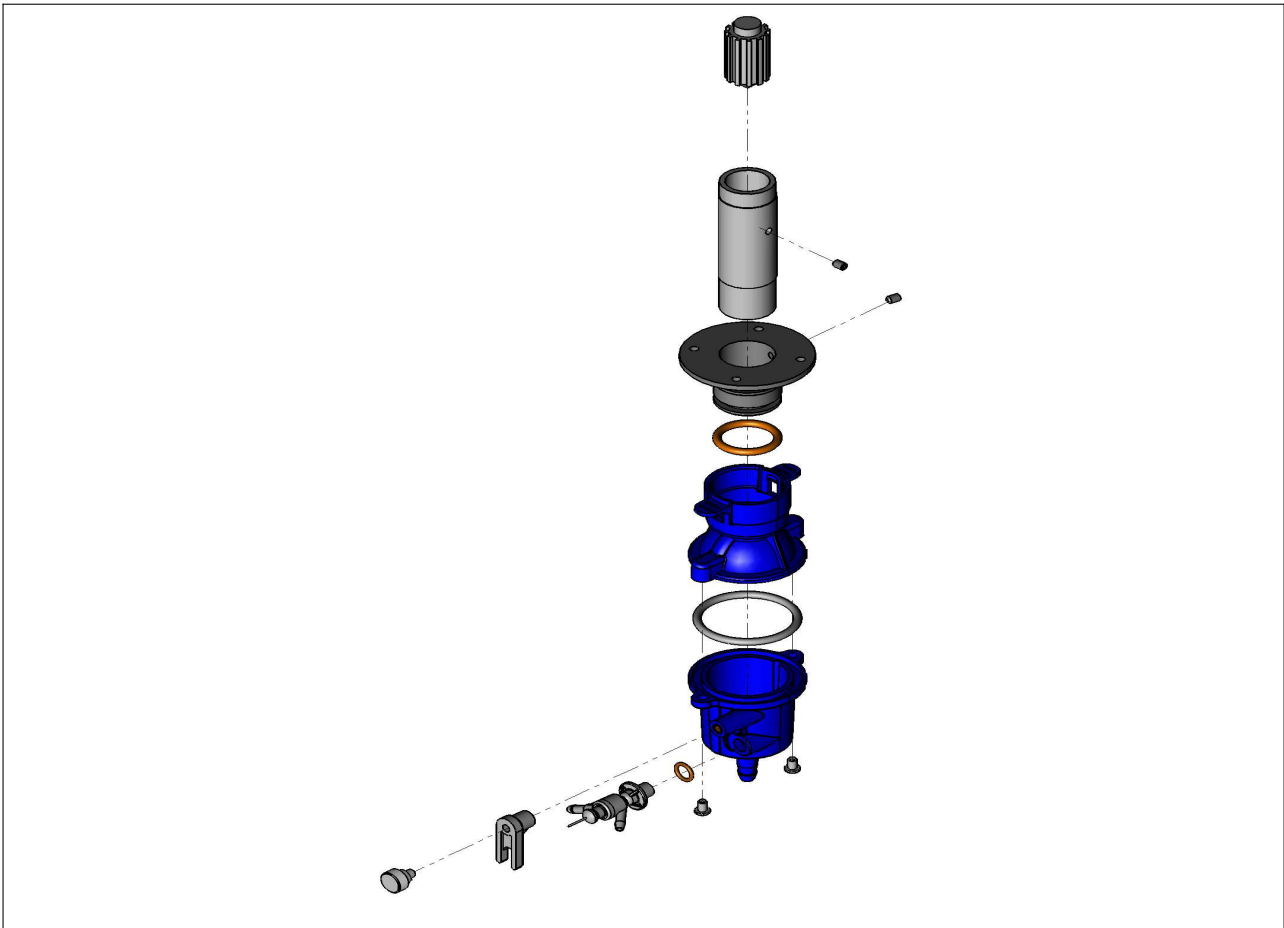

Figure 6.3
- Undo the set screw on the Chimney Mount (see Figure 6.3) and lift the Burner Tube up and out.